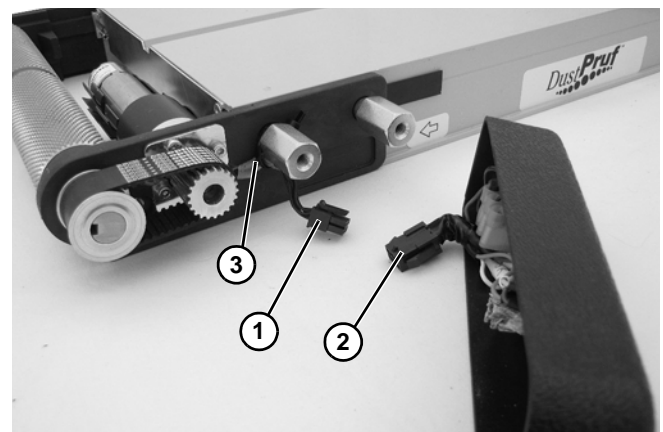

Figure 69
3. Unplug motor connector (**Figure 69, item 1**) from cover wiring connector (**Figure 69, item 2**), and cut cable tie (**Figure 69, item 3**) from conveyor.